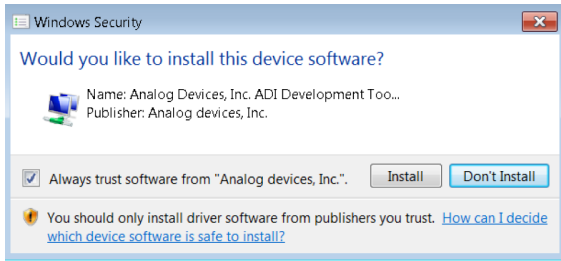
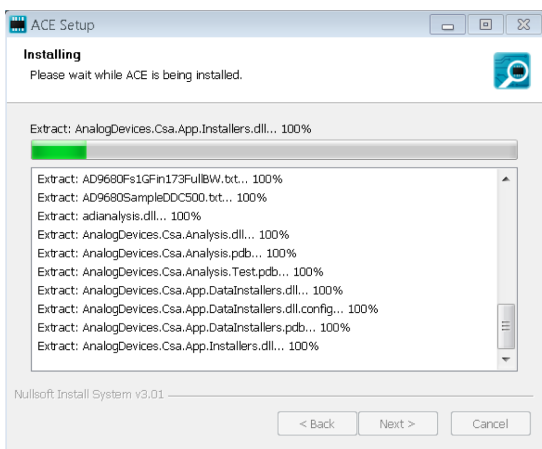

Figure 7. Windows Security Window
Figure 8. Installation in Progress
- The **Windows Security** window appears. Click **Install** (see Figure 7). Figure 8 shows the installation in progress. No action is required.